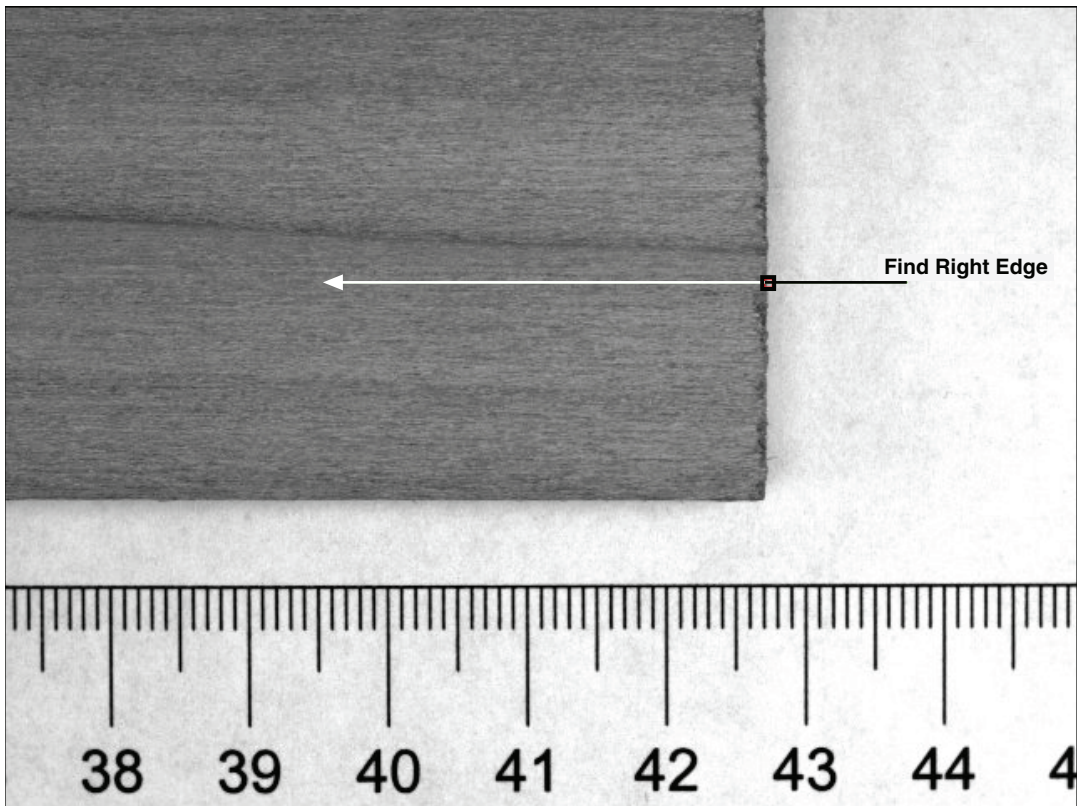

Figure 5-5. Finding the Right Edge of the Plank
4. Draw a line across the right edge of the part going from right to left, as shown in Figure 5-5.